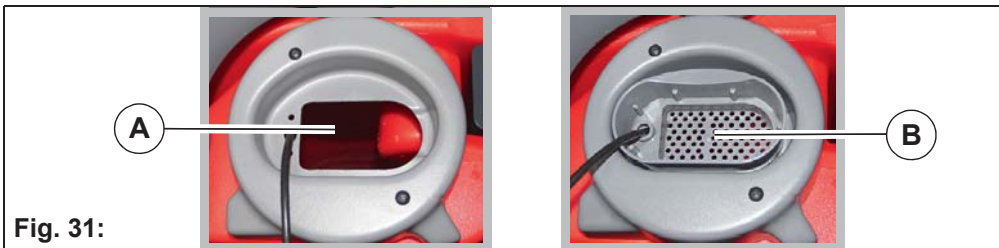

Fig. 31:
2. Remove insert in grey cover **Fig. 31-A**.
4. Add detergent according to the manufacturer's regulations via the sieve insert **Fig. 31-B**.